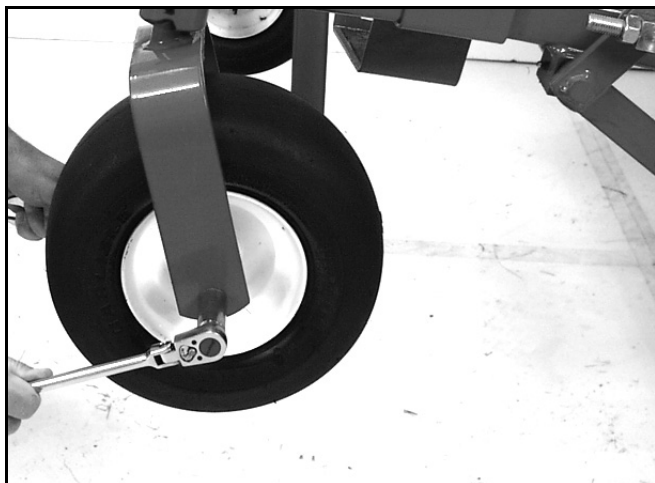

Figure 97
2. Remove the through bolt holding the wheel to the caster assembly (Figure 97).